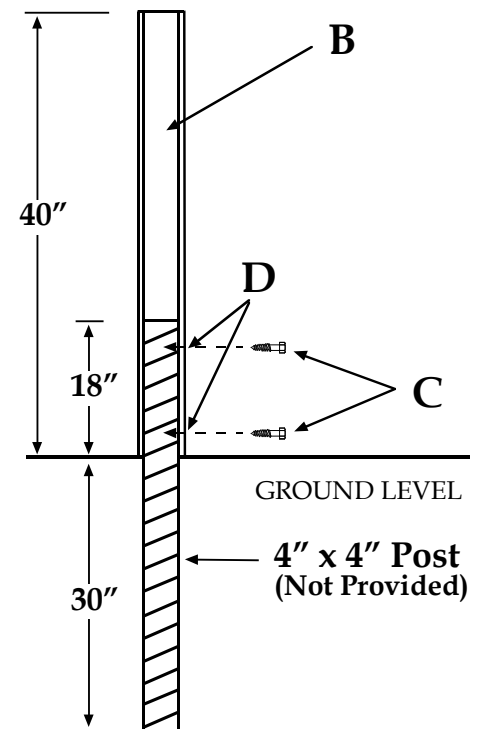

Figure 2
- 3) Place the 4" x 4" post into the hole so that the face of the post is at the marked line (See step 2) leaving at least 18" out of the ground. (See Figure 2)
- 5) Carefully remove the aluminum post (B) from the plastic sleeve. To prevent a reaction between the treated wood and aluminum, first slide the plastic sleeve over the partially buried 4x4 and then slide the post down so that the two bolt holes are positioned away from the road and the aluminum post is resting on the ground. (See Figure 2)
- 6) Plumb the aluminum post to vertical and use 2 - 1/4" x 2" lag bolts provided (C) to secure aluminum post to treated post. (See Figure 2 - drilling pilot holes in the wood may be necessary)
- 6) Plumb the aluminum post to vertical and use 2 - 1/4" x 2" lag bolts provided (C) to secure aluminum post to treated post. (See Figure 2 - drilling pilot holes in the wood may be necessary) **Please Note:** Apply small amount of Silicon Sealer (H) in and around holes before securing the two bolts to the post.